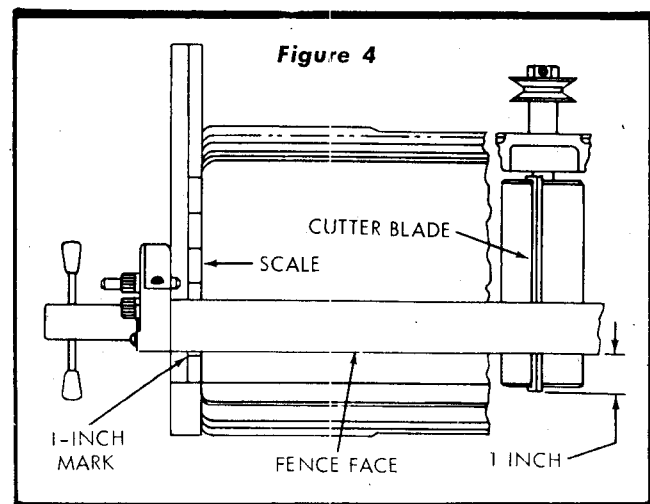

Figure 4
5. Adjust width of cut scale. (See figure 4.)